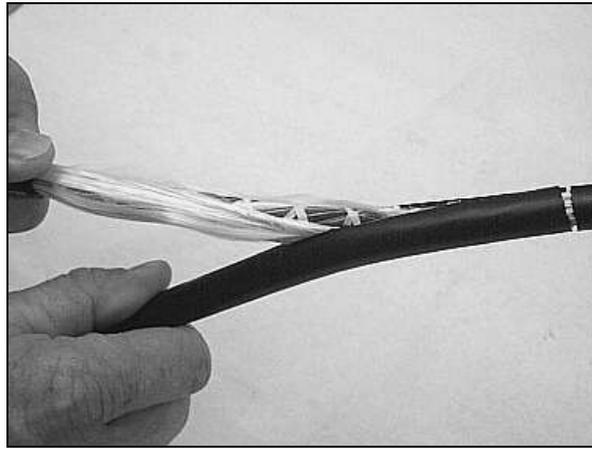

Figure 17 - Remove the 10-inch section of cable jacket.
6.6 Remove the 10 inch section of cable jacket to expose the dielectric strength elements and the core. (Figure 17).